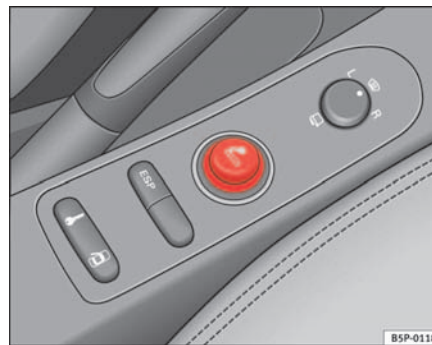

Fig. 114 The cigarette lighter is located in the electric socket on the front of the centre console
- Press on the cigarette lighter ⇒ fig. 114 to activate it ⇒ .